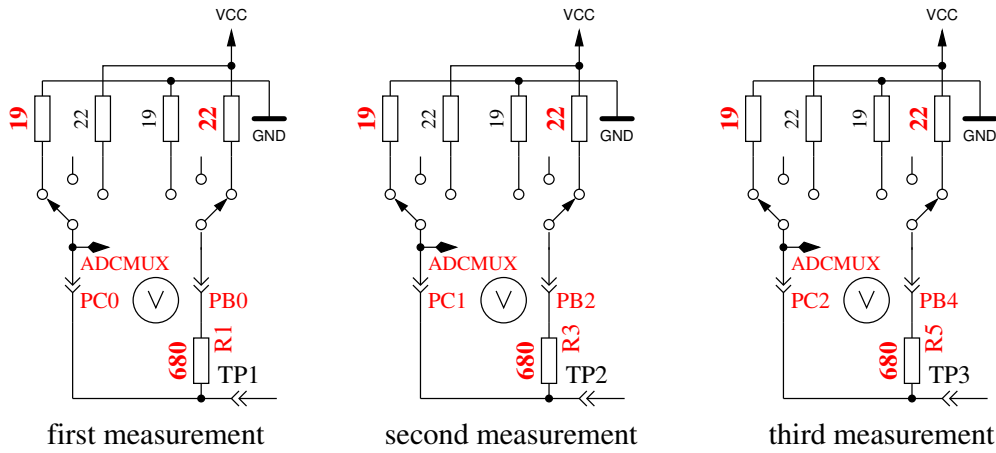

Figure 5.52: Measurement of internal resistance of Port C switched to GND
5. **This step tests the capability of GND (-) connected 470kΩ resistors (H) to pull the test pins to GND.** Row 1 shows the text “RH-”. Row 2 should display zero for all three pins.
6. **This step tests the capability of VCC (+) connected 470kΩ resistors (H) to pull the test pins to VCC (+).** Row 1 shows the text “RH+”. The results are shown als difference to VCC and should be near zero. Great differences from the best value for test 5 and 6 are errors such as isolation problem, flux material or damaged port.
8. **Measuring of internal resistance of pin output switched to the GND signal.** This test and the follwing tests will only be done, if the option AUTO\_CAL is selected. The internal resistance of the port C outputs switched to GND (-) are measured with the current of to VCC (+) switched 680Ω resistors, see Figure 5.52. Only the three pins of the ADC port are measured, the resistor port B (PB0,PB2 and PB4) can not be measured without hardware modification. Is is assumed that the port resistance of the different ports are nearly identical. The resistor value will be shown in the next test.